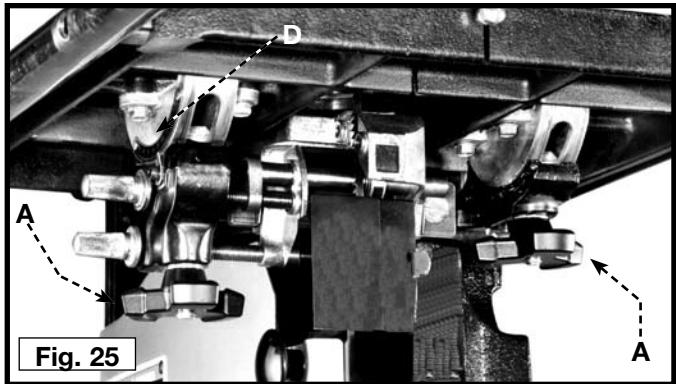
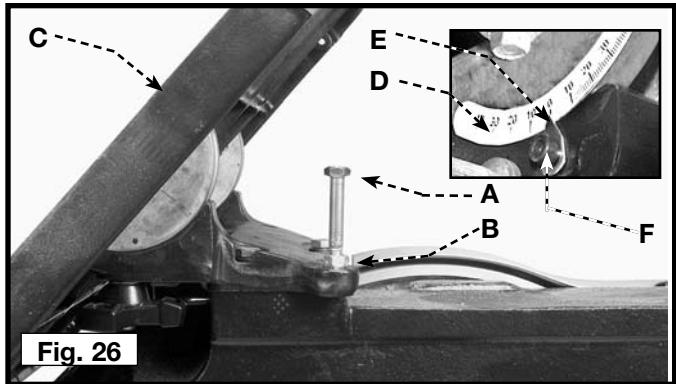

Fig. 25
Fig. 26
1. To tilt the table to the right, loosen the two locking knobs (A) Fig. 25, tilt the table to the desired angle as shown on the scale (D) Figs. 25 and 26, and tighten two locking knobs (A).
2. To tilt the table (C) Fig. 26 to the left, loosen the two locking knobs (A) Fig. 25 and tilt the table to the right until you have access to the table stop (A) Fig. 26. Remove the table stop (A) Fig. 26, and tilt the table to the left 10 degrees. Tighten the two locking knobs (A) Fig. 25.
This machine is equipped with an adjustable table stop (A) Fig. 26 that allows the table to be set at 90 degrees to the blade.
Tilt the table (C) Fig. 26 to the left until the table stop (A) Fig. 26 contacts the table. Place a square on the table against the blade (Fig. 27). If the blade is not 90 degrees to the table surface:
2. Loosen the locknut (B) Fig. 26 to free the adjusting screw (A) Fig. 26. Turn the adjusting screw (A) right or left to raise or lower the table stop, then tighten the locknut (B).
4. When the table is 90 degrees to the blade, confirm that the pointer (E) Fig. 26 is set to 0°. If not, loosen the screw (F) Fig. 26 and move the pointer to 0°. Tighten the screw.